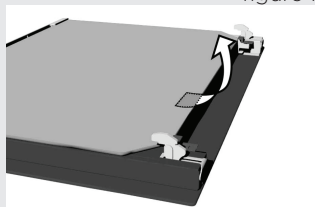

figure 2
- Hold the door glass by the lower edge, slightly lift it so that it is no longer attached to the support, and remove it (Figure 2).